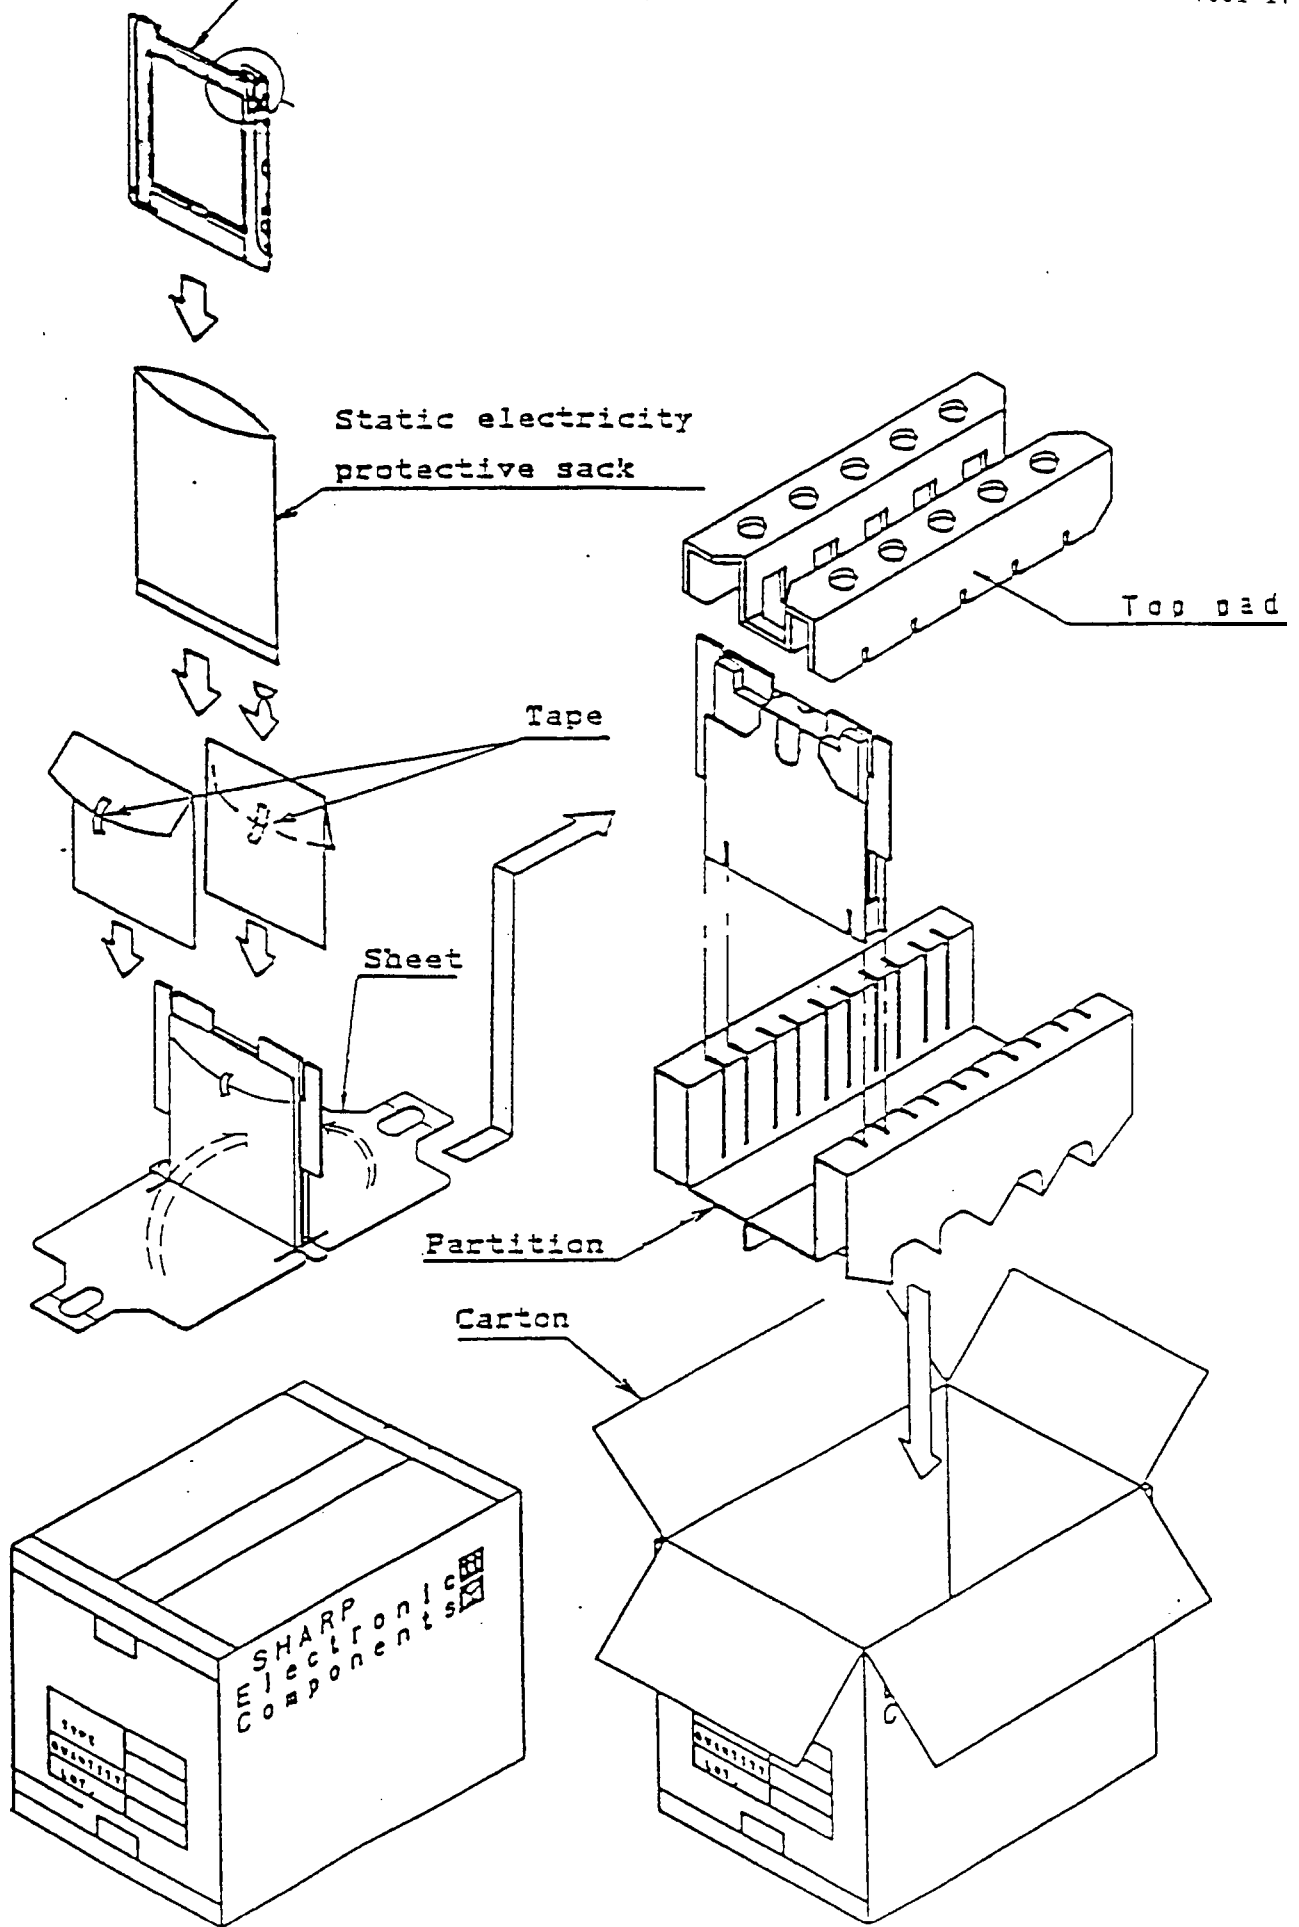

Fig. 4 Packing form
- Packing form is shown in Fig. 4.